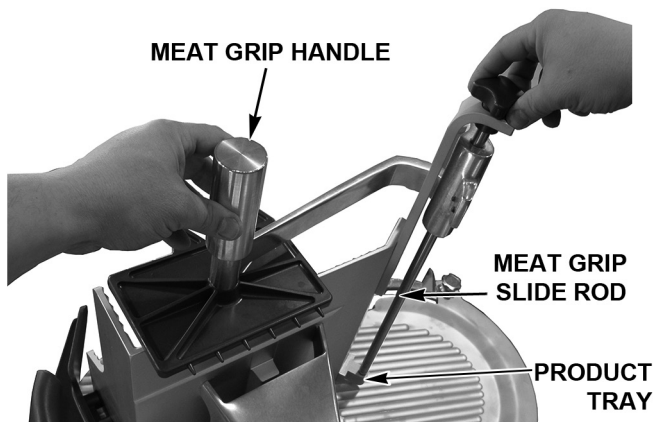

Fig. 6
- The Meat Grip (Fig. 6) is mounted on the Product Tray and can be removed for ease of cleaning.
- Remove the Meat Grip by loosening the Meat Grip Slide Rod (Fig. 6) from the Product Tray while holding the Meat Grip Handle (Fig. 6).